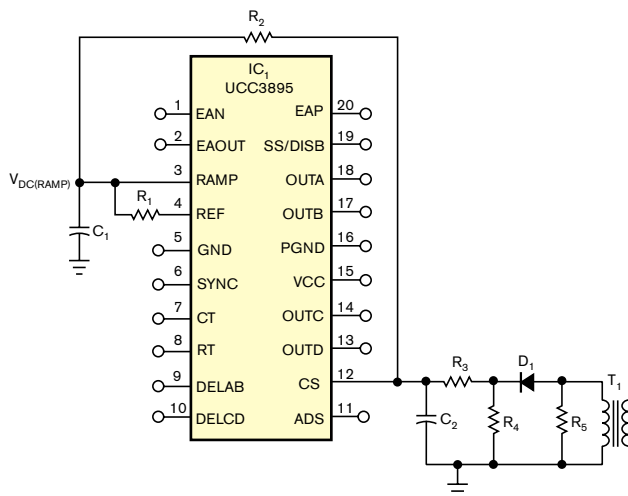

Figure 1 An added resistor,  $R_1$ , helps improve light-load operation of a popular switched-mode power-supply controller by eliminating output asymmetry.
Unfortunately, the workaround evokes other problems when you use the IC in other circuit implementations. Figure 1, from Reference 2, shows a partial schematic featuring the UCC3895 in a peak-current-mode-control circuit in which  $R_1$  serves as a pullup resistor, providing a dc offset for the voltage ramp. However, for a significant portion of the ramp waveform, diode  $D_1$  doesn't conduct and therefore narrows the power supply's dynamic range by cutting off a portion of the ramp voltage at IC1's Pin 3.
The resulting servo loop offers many desirable properties that include simplicity and zero steady-state error. Unfortunately, as Figure 1 shows, it also exhibits an undesirable property: an oscillation that never allows final
**Figure 1** A simple integrating control algorithm virtually guarantees that the system’s temperature oscillates and never converges to the setpoint temperature,  $T_s$ .